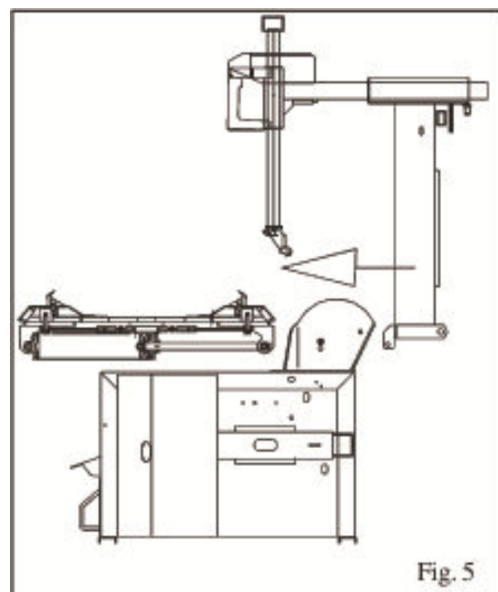

Fig. 5
- Set the vertical arm into its housing on the machine body, as shown in Fig. 5.